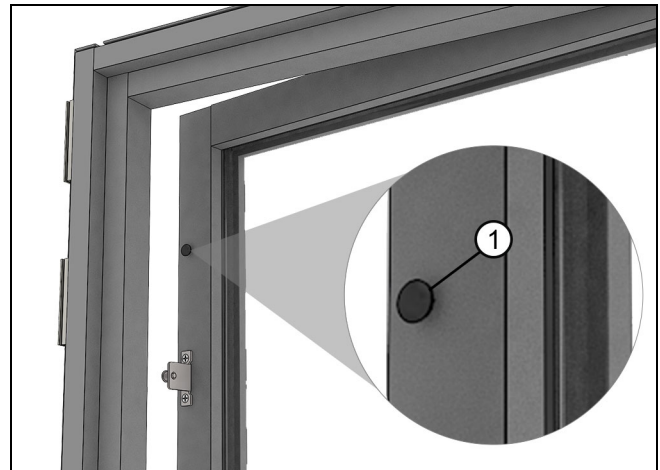

Figure 37
2. The sensor is activated by a magnet located in the sash (top of the locking stile). See Figure 37.